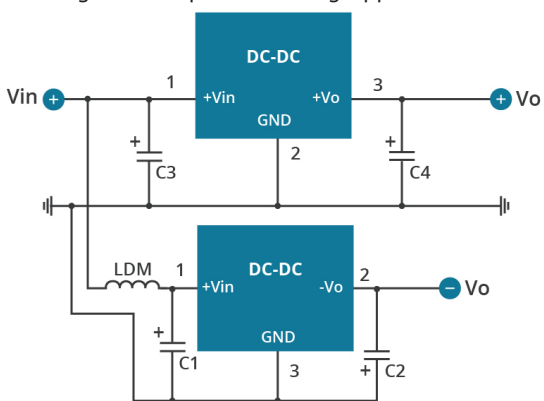

Figure 4
- To reduce the output ripple further, it is recommended to connect an "LC" filter at the output terminal with a recommended value of 10~47 μ H for the L component. (See Figures 4 & 5).